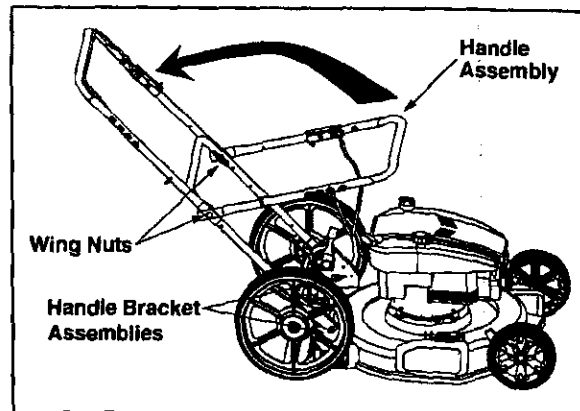

Figure 3
- Lift up and pull back on the upper handle to raise the handle into the operating position. Make certain the lower handle is seated securely into the handle bracket assemblies. Tighten the wing nuts on each side of the handle (carriage bolts must be seated properly into the handle). See Figure 3.